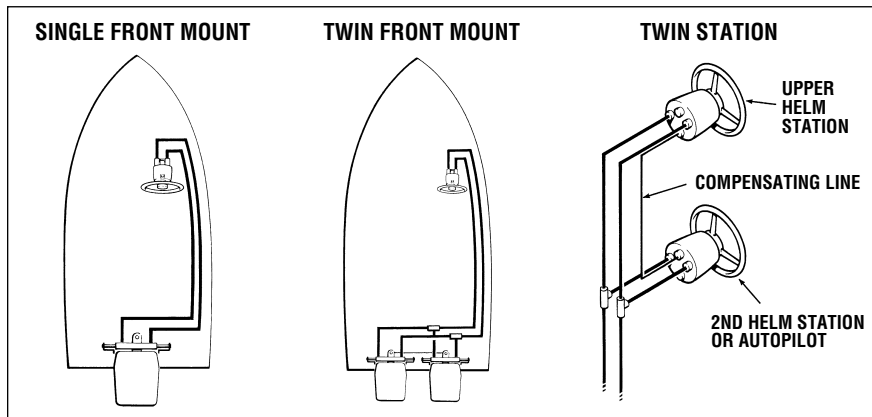

Figure 3.
- See Figure 3 on the next page to locate your plumbing diagram.